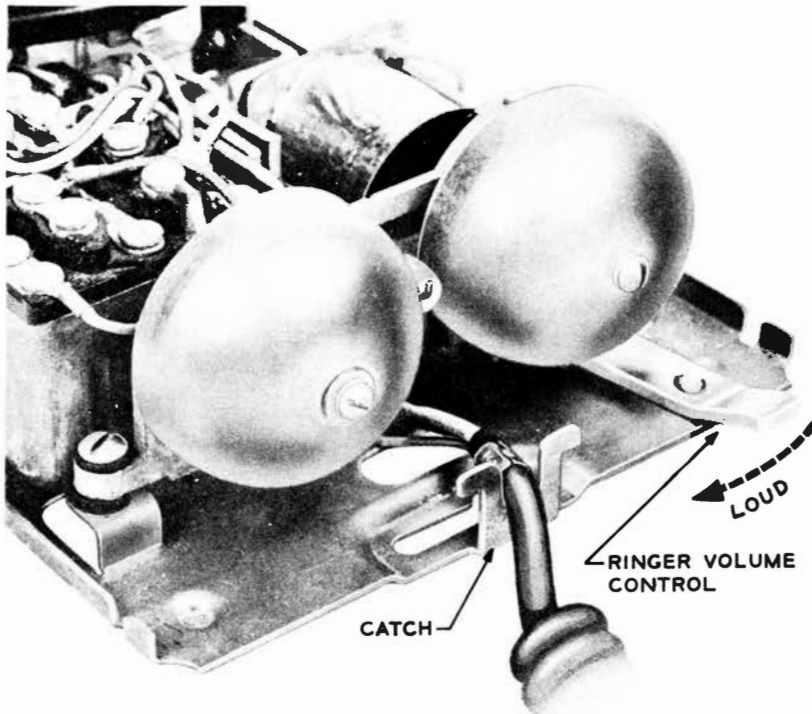

Fig. 32 — 554- or 556-Type Set, Ringer Volume-Control Lever
4.08 The ringer volume-control lever in the 554- and 556-type telephone sets is riveted at one end to the base of the set (see Fig. 32). In the 500-type telephone set, the ringer volume-control assembly is part of the ringer.